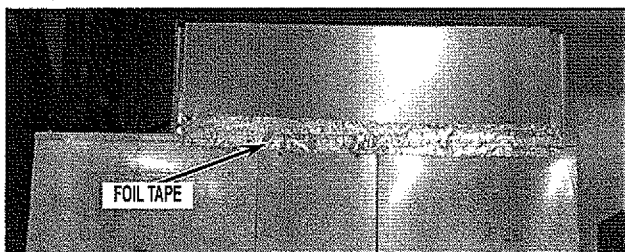

FIGURE 28
27. Place the foil tape supplied in the kit, in the location shown in *Figure 28*. It is very important this tape is in place to facilitate proper air flow.